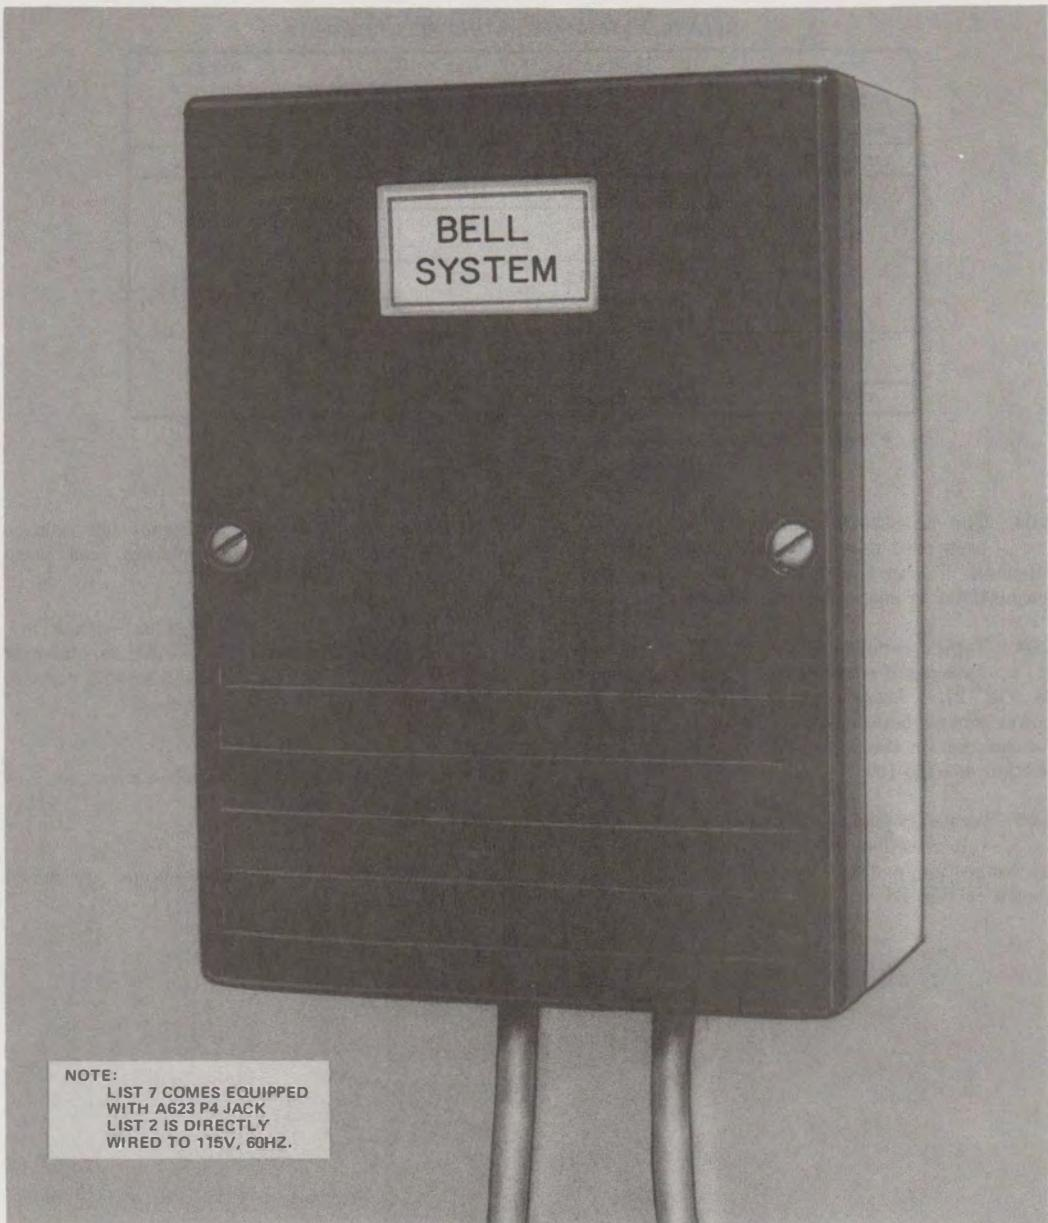

Fig. 23—KS-22001 Chime
3.16 Signals, KS-22001 (Fig. 23):